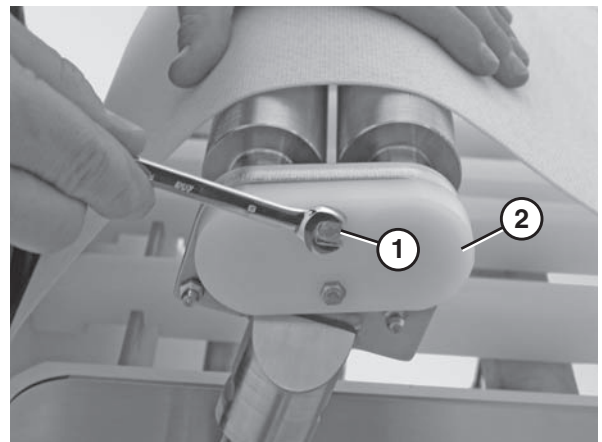

Figure 86
2. Remove the transfer bearing screws (**Figure 86, item 1**) and the cover (**Figure 86, item 2**) using an 8 mm wrench.